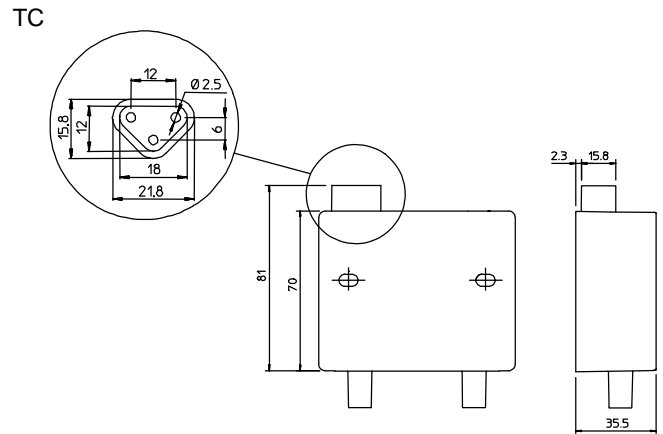
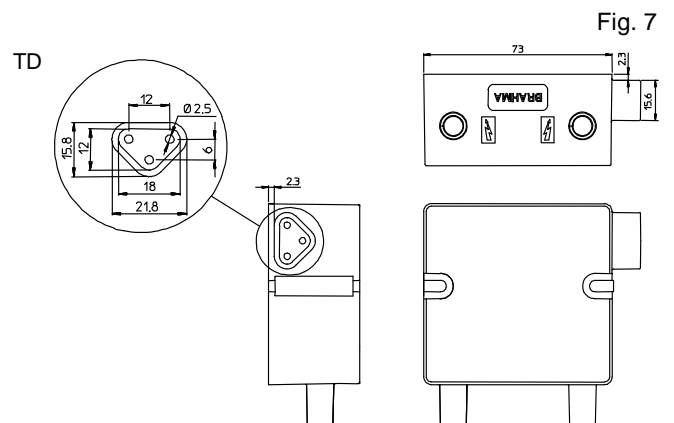

Fig. 6
Fig. 7
- P: outlet power supply (Fig. 6 and 7);
All transformers can be supplied with cable or power supply outlet; see, for instance, Fig. 6 and Fig. 7, which show the dimensions of a transformer provided with power supply outlet (with lateral isolators).